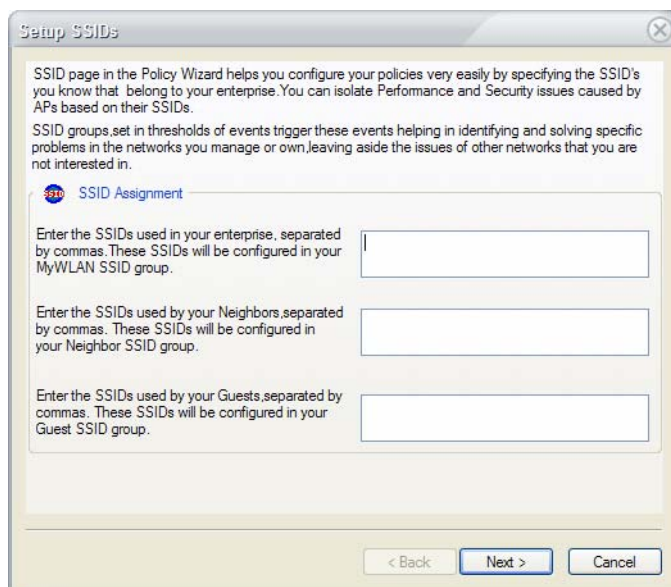

Figure 12-14: Configuring SSID groups
- 1) From the AirMagnet Policy Management screen, click **Policy Wizard**. The Setup SSIDs screen appears. See Figure 12-14.